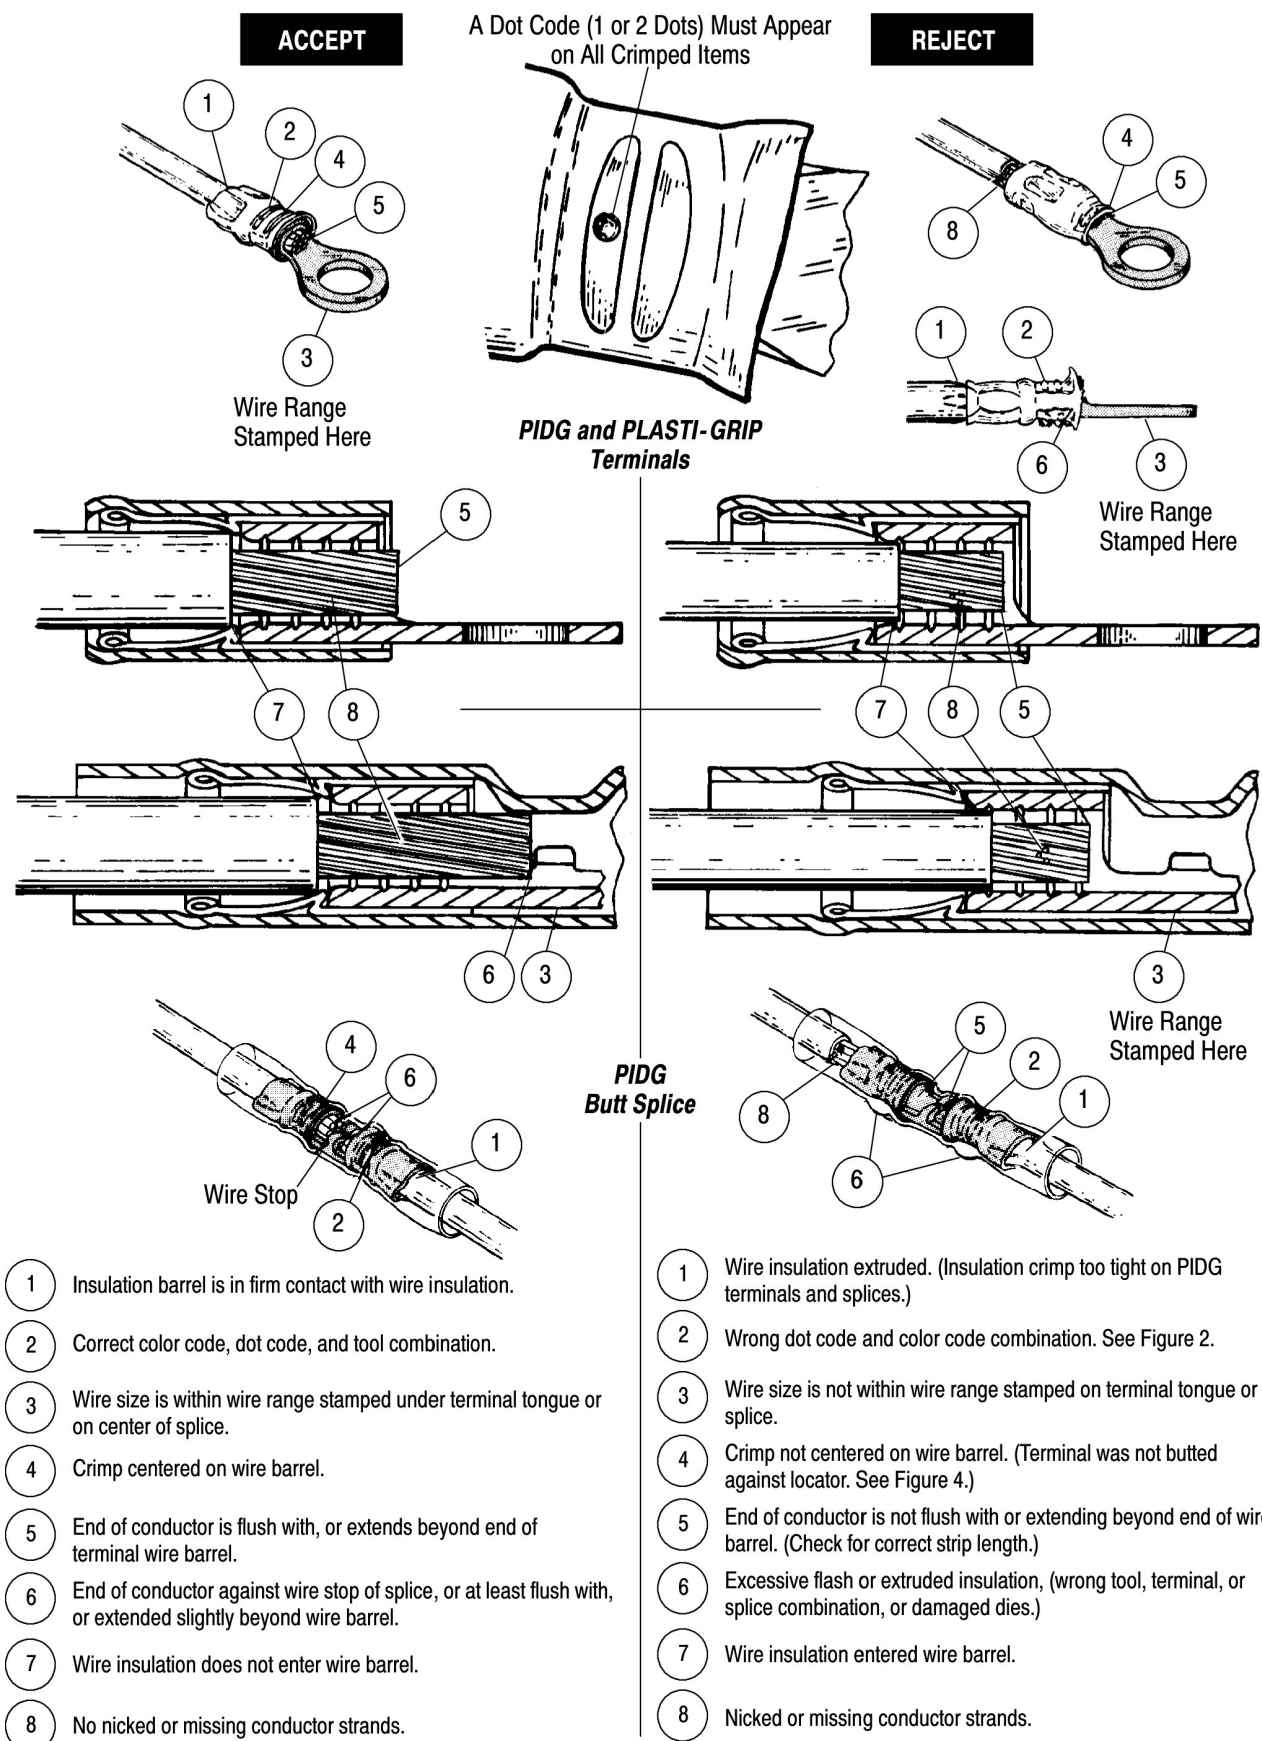

Figure 5
6. Cycle the SDE 1600 Power Unit and hold momentarily to complete the crimp. The terminal or splice should be as shown in Figure 5 or Figure 6